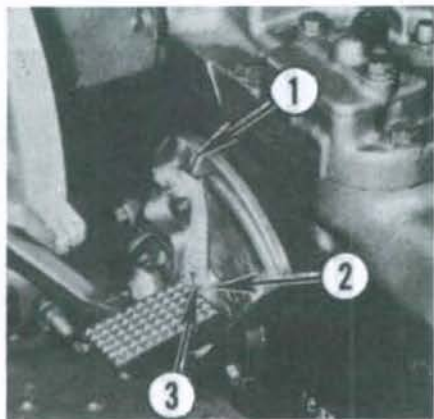

Fig. 190—View of response control side cover with outer cover removed.
206. RESPONSE CONTROL. To adjust response control, first remove outer cover from response control side cover. Place response lever (1—Fig. 190) 6.4 mm (1/4 inch) from "SLOW" position, then loosen retaining screw (3). Move inner plate (2) until cam block contacts the "slide" valve lever (located inside housing on pump). Tighten retaining screw to secure the adjustment.